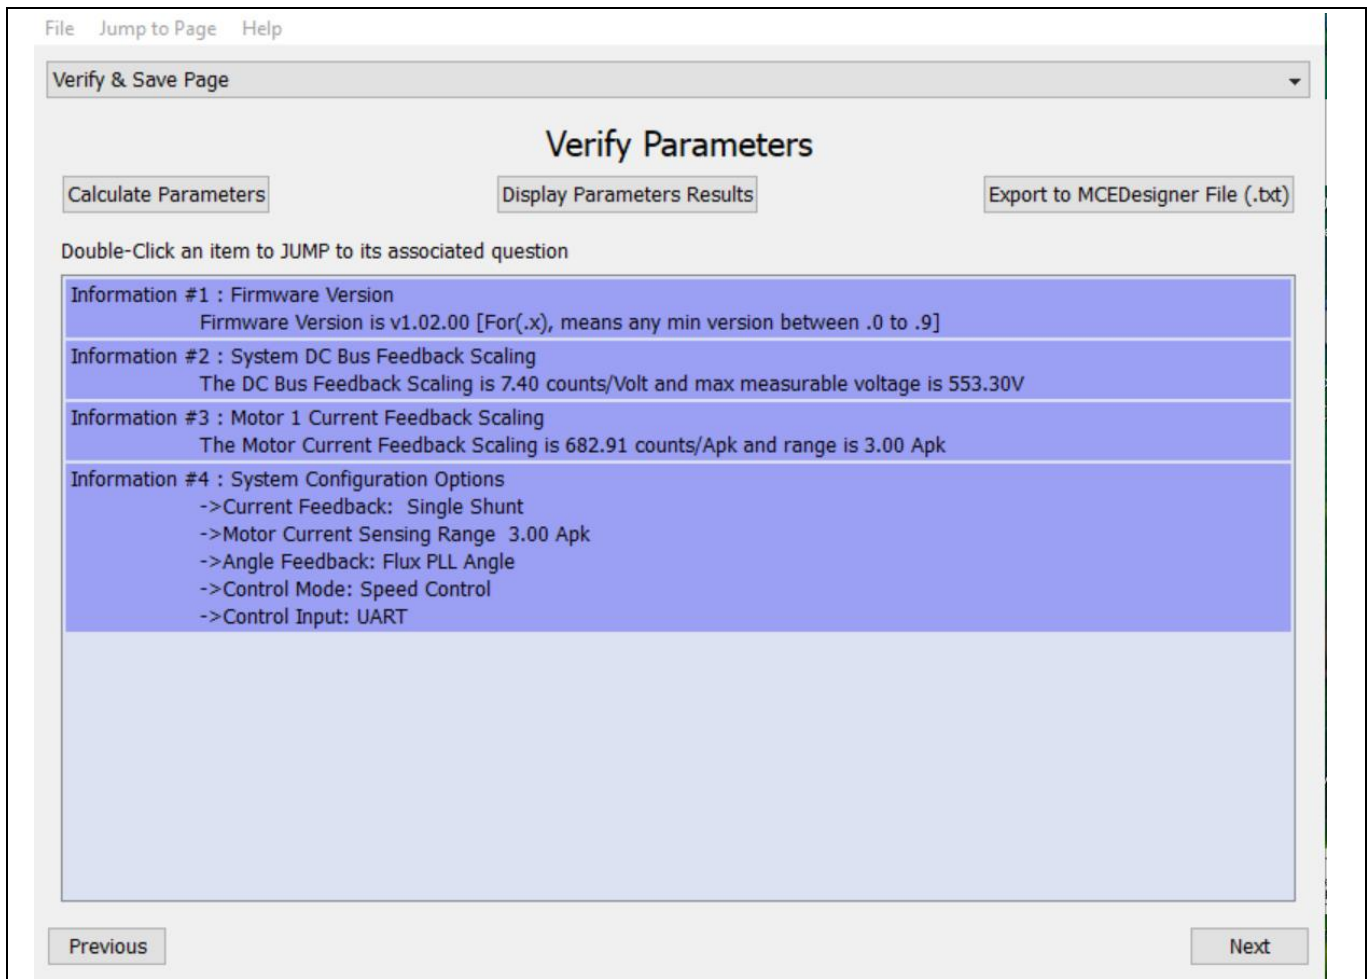

Figure 7 MCEWizard verify and save page
- After system and operating parameters are set, go to the "Verify & Save Page" and click on "Calculate" button. If no errors are reported, then save the drive parameter set in your project directory by clicking "Export to Designer file (.txt)" (Figure 7); if some errors are detected, double-click on the error message (highlighted in red) and adjust the related parameters. Saved drive system parameter file will be later used for programmers.